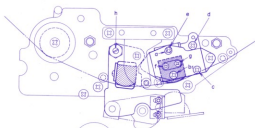

Fig. 6-2
## 1. ADJUSTMENT OF HEAD HEIGHT (SEE FIGURES 6-2 AND 3).
- 1) To adjust, turn screws (a) (b) (c) (Fig. 6-2) During "Normal Play" position so that the upper edge of the upper core of the Playback/Rec Head is the same height as the upper edge of the tape. Adjust by turning screw (d) (Fig. 6-2) during "Reverse Play" position so that the lower edge of the lower core of the Playback/Rec Head is the same height as the lower edge of the tape.